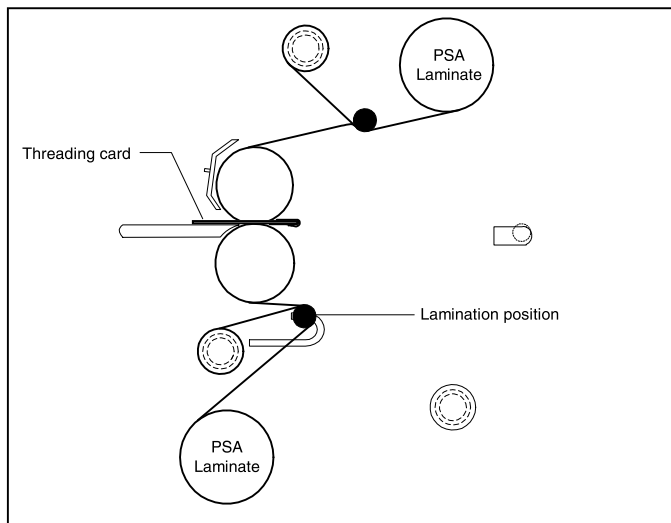

Fig. 23
10. Pivot the table back to its feeding position while ensuring the threading card is on top of the feed table (Figure 23).
14. Push the front roller "**PRESS**" (I) button to close the main rollers.